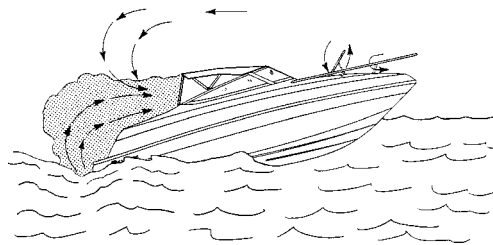

FIGURE H3: BACKDRAFTING - AIRFLOWS OVER BOAT AND BEHIND TRANSOM.
Backdrafting or the "station wagon effect" is caused by air movement over or around a boat creating a low pressure area of suction area around the stern which can increase CO level on the boat. Backdrafting can be affected by relative wind direction, boat speed, and boat trim angle. See Figure H3 Backdrafting - Airflows Over Boat and Behind Transom".
3. Canvas Configurations - Under various conditions, adding or removing canvas may raise or lower CO levels. See Figures H3, H5 & H6.